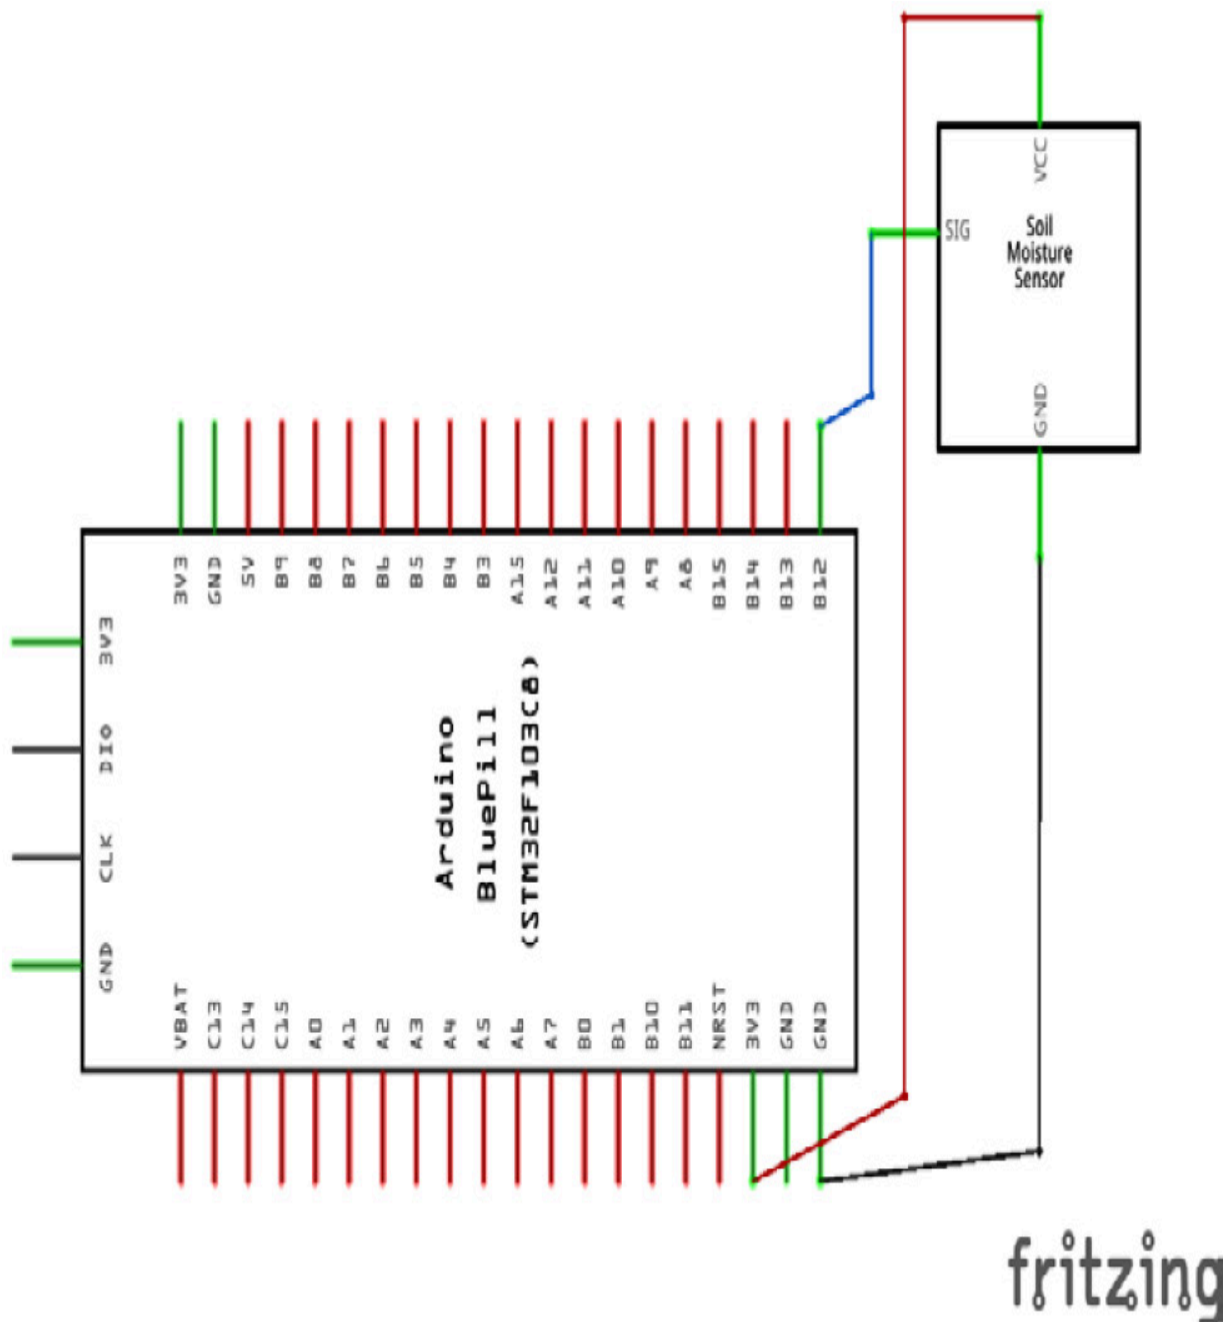

Figure 10.4 – Schematic diagram for soil moisture sensor connection
*Figure 10.4* shows an electric diagram for this part of the project. The ground pin of the sensor was connected to the GND pin of the Blue Pill, while the VCC pin was connected to the Blue Pill's 3V3 bus. Finally, the DO of the sensor was plugged into the B12 pin of the